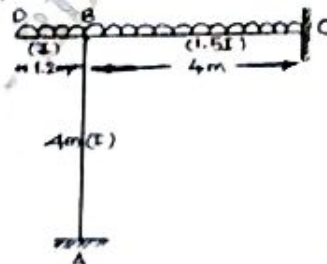

Fig.Q4
- 4 Analyze the portal frame shown in Fig.Q4 by moment distribution method. Draw BMD, SFD and elastic curve.